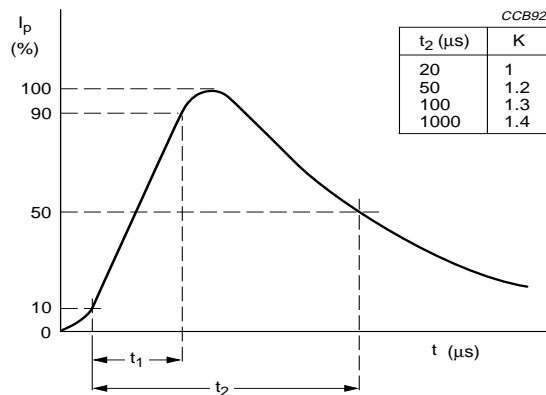

Fig.13 Peak current as a function of pulse width.
- a) K is dependent on the value of t_2 when the value of t_1 is between $8 \mu\text{s}$ and $10 \mu\text{s}$; see Fig.13.